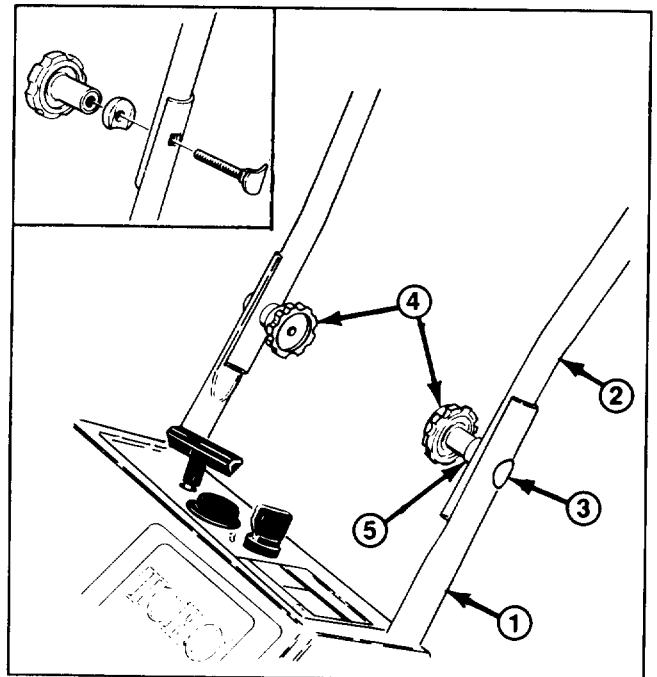

Figure 2
### INSTALL HANDLE (Fig. 2)
**Note:** Make sure the oval head bolts and curved washers are aligned correctly as shown in Figure 2 to prevent knobs from loosening.